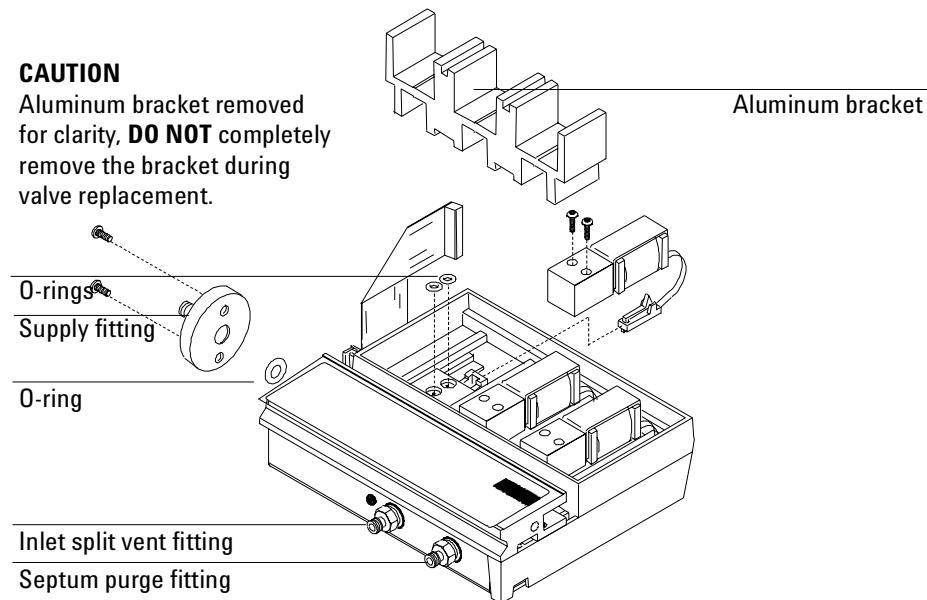

Figure 210-17 EPC module serviceable parts
8. If the leaky component is serviceable, such as a vent/inlet fitting (see diagram of serviceable parts, Figure 210-17), replace it. Otherwise, replace the EPC module.